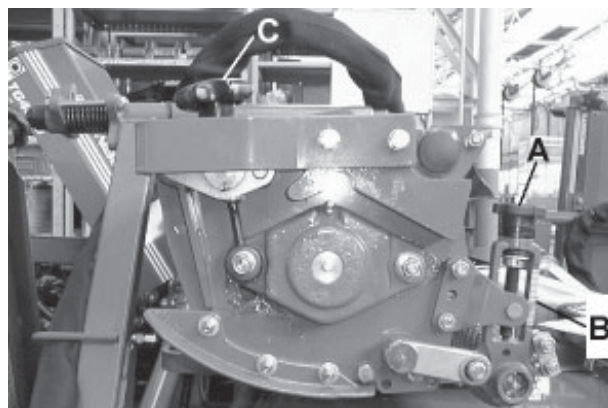

Fig.6
### CUTTING CYLINDER TO BOTTOM BLADE ADJUSTMENT (FIG.6)
1. To adjust the cylinder to the bottom blade turn alternately left and right hand handwheels (C Fig.6) clockwise to put on cut. A 'notching' effect will be felt as the handwheel is rotated in a clockwise direction this 'notching' is moving the cylinder in increments of approximately 0.035mm (0.0014in) towards the bottom blade.